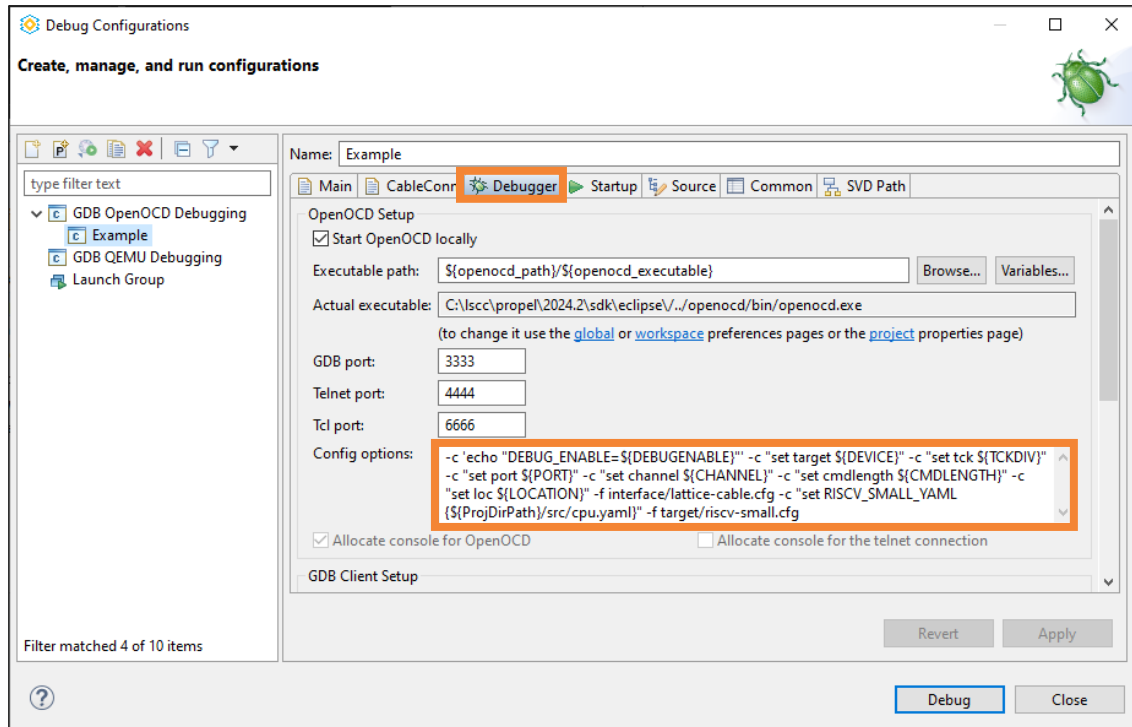

Figure 3.40. Debugger Tab of Debug Configurations
6. Select the **Debugger** tab (Figure 3.40). It is critical that the **Config options** field contains the correct command line options to be passed to OpenOCD.